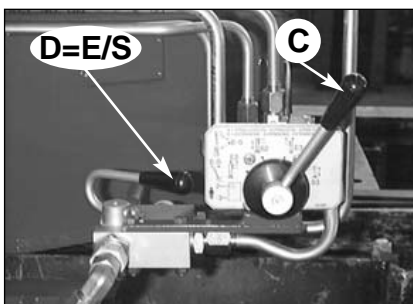

fig. 18
- Position lever **D** of oil diverter crane-outriggers (⌘ - E/S) on E/S. (fig. 18)
- Position lever **D** of oil diverter crane-outriggers (E/S - E/S) on **E/S**. (Fig. 18)